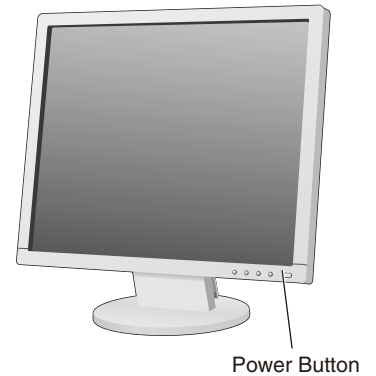

Figure D.1
5. Turn on the monitor with the bottom power button and the computer (**Figure D.1**).